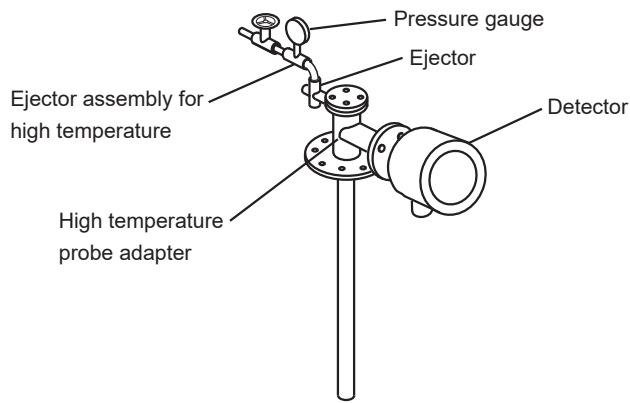

Figure 4.22 Mounting the ejector assembly
- When a high temperature detector is used and the sample gas pressure is negative, connect an auxiliary ejector to the sample gas exhaust hole of the high temperature probe adapter (see Figure 4.22).
- If the sample gas is under negative pressure, connect the ejector assembly (E7046EC/ E7046EN) as illustrated in Figure 4.22. Mount the pressure gauge as close as possible to the ejector. However, if the ambient temperature is too high, mount the gauge in a location with a temperature below 40°C.